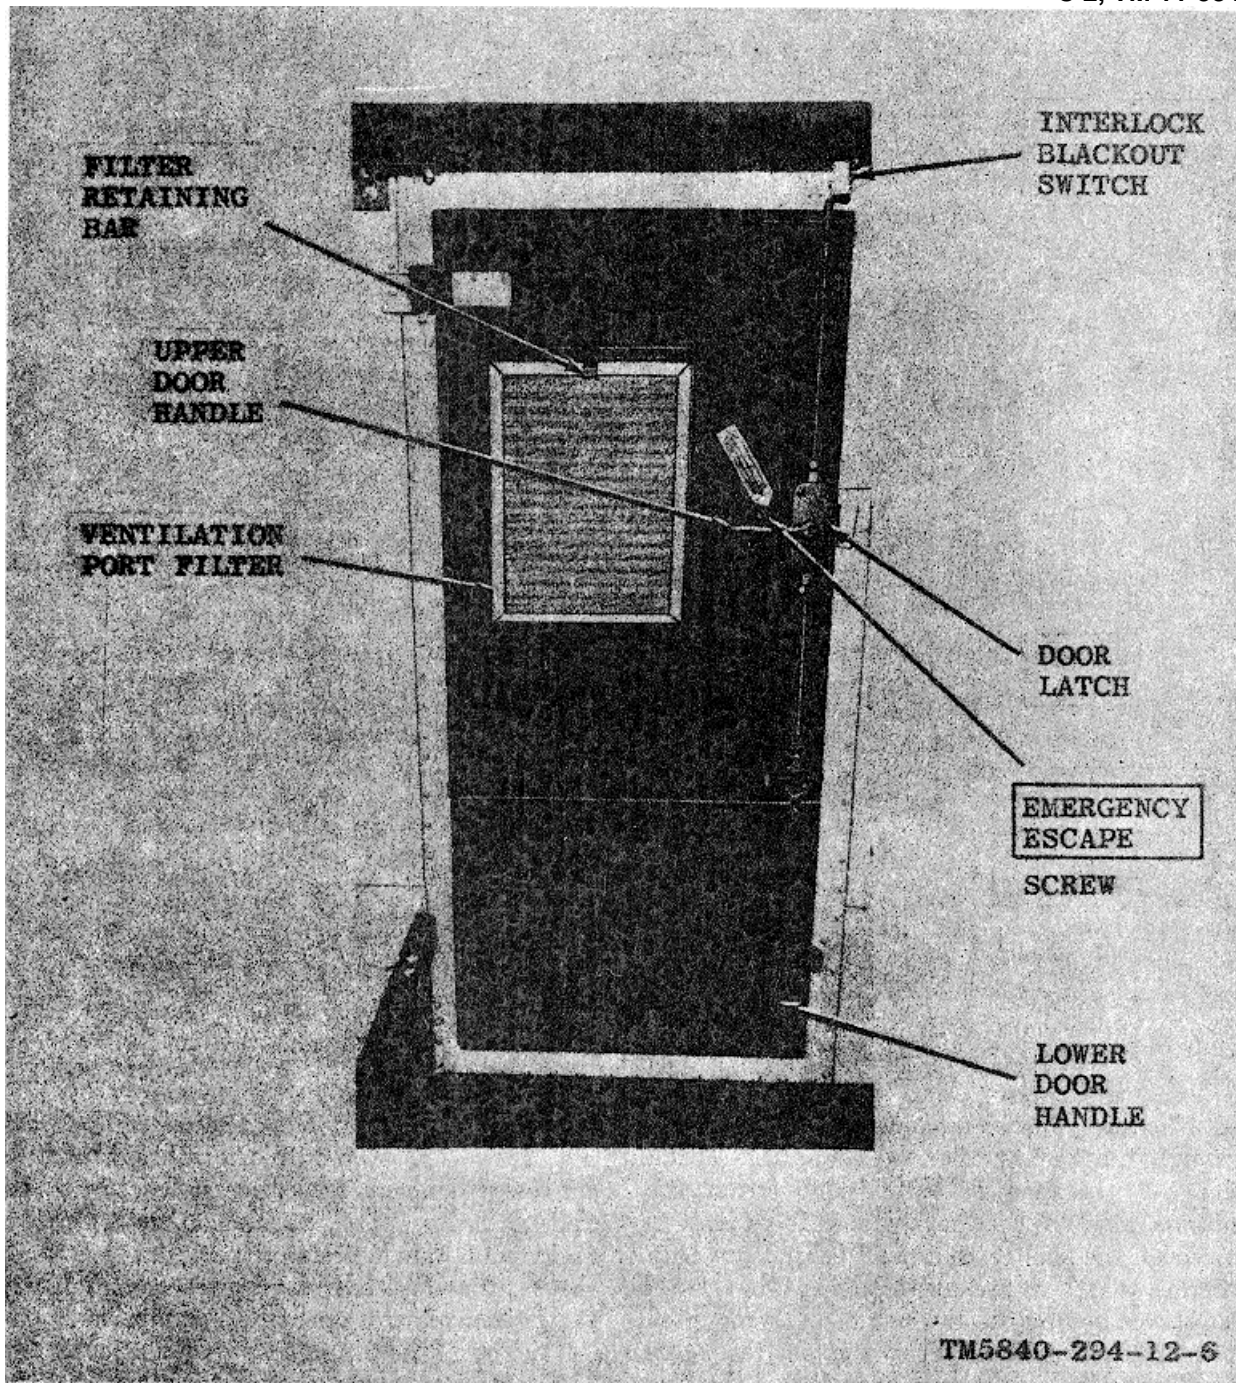

Figure 1-6. Shelter, Electrical Equipment S-339/TKQ-2, entrance, inside view.
a. The shelter entrance door in the rear wall is divided into two sections. The upper door section may be opened without opening the lower door section, making it possible to enter the shelter without lowering the truck tailgate. A door latch (fig. 1-6) on the inside of the upper door section is operated by a
handle (not shown) on the outside. This door may be held open by a spring-loaded harness snap that is attached to a harness snap storage catch when not in use. The door can be locked shut with a padlock (not shown). An EMERGENCY ESCAPE screw (fig. 1-6) permits the upper door section to be opened from inside if it is inadvertently padlocked on the outside. The lower door section has a latch operated by a handle (fig. 1-6) on the inside. This door can be opened only when the upper door section is open and the truck tailgate is down. The drain hole (fig. 1-4(1)) drains the data antenna mast base. The drain hold cap is used only when fording.
the shelter left wall. All the ventilation and air intake ports, except the heater air intake port, are equipped with removable covers. Each cover for the two ventilation ports on the shelter front wall and the two air conditioner air intake ports has four captive screws that are used to fasten the covers in the front of the ports or in storage positions below the ports. The ventilation port in the shelter upper door section is fastened with a captive screw when closed. It is also equipped with a replaceable air filter (fig. 1-6) that is held in place by retaining bars. The ventilation ports should be open when the shelter is in use (except when the air conditioners are set to COOL). At least one ventilation port should be opened when the shelter is to be transported by helicopter or airlift.
c. The OVHD LT switch on the junction box front panel controls operation of the shelter lights. When the OVHD LT switch is set to BLACKOUT, the interlock blackout switch (fig. 1-6) above the entrance turns the shelter lights off when the door is opened. When the OVHD LT switch is set to ON, the